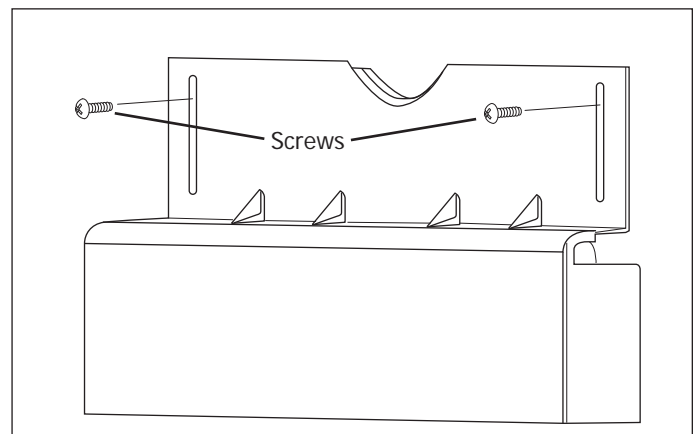

Figure 2-9.
1. Remove two (2) screws at front of the kickplate assembly using a #2 Phillips screwdriver.
2. Tilt and pull forward to remove. (See Figure 2-9).